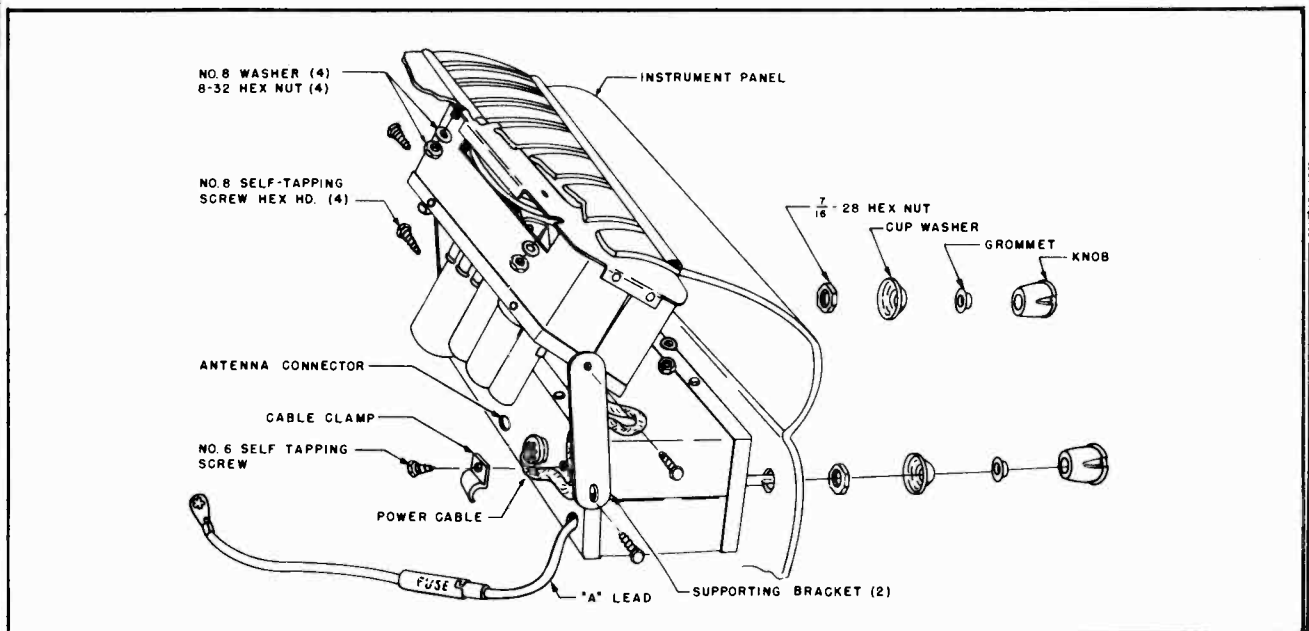

FIG. 1 DETAIL MOUNTING ASSEMBLY
3. Place speaker and power pack unit over four threaded stud bolts located on the underside of the instrument panel. (Position power pack unit so that power cable is located on the left hand side.) See Fig. 1.
The following mounting hardware parts are shipped attached to the receiver. (See detail assembly drawing Fig. 1).